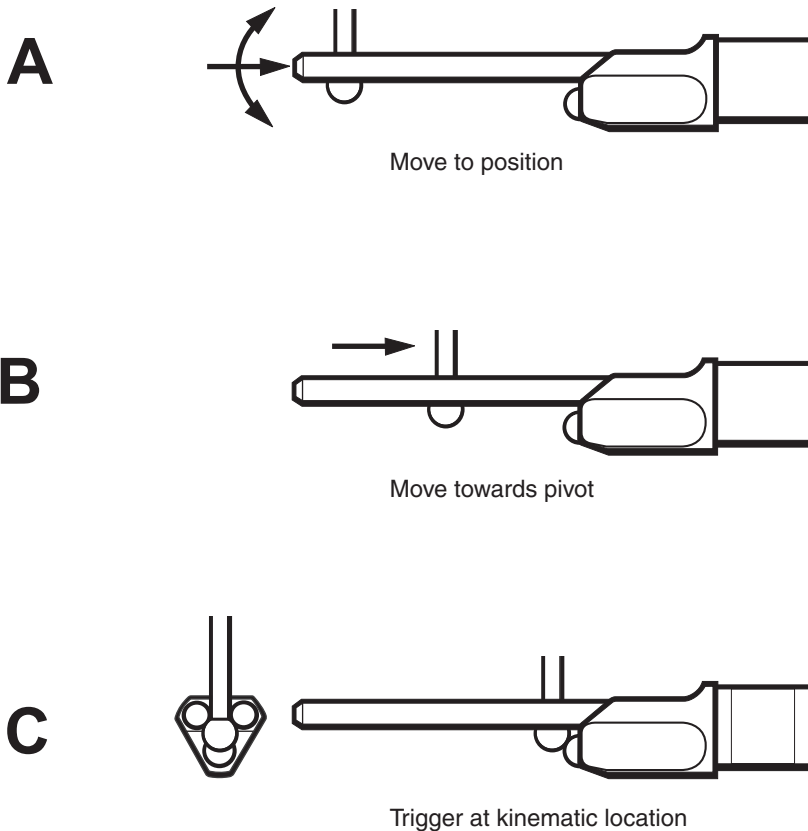

Figure 3 - Measuring sequence
The probe is moved to its required position (position A, figure 3) and then towards the pivot position (B) where it will trigger at the kinematic location (C) and the radius is measured.